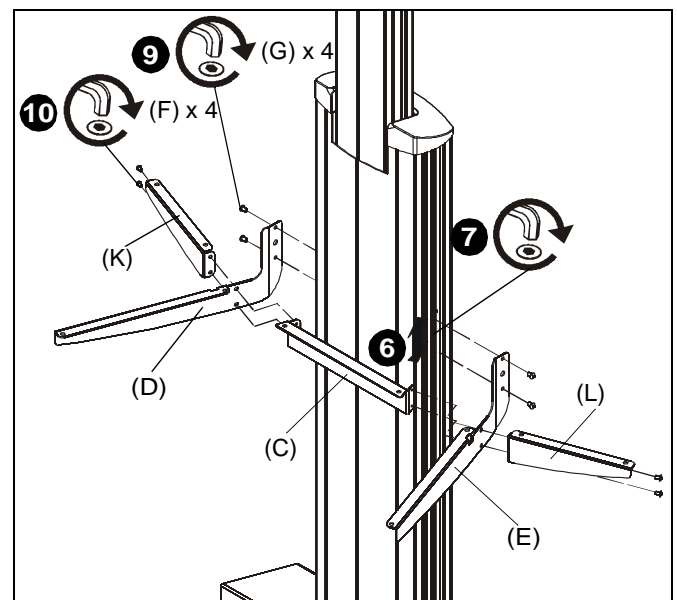

Figure 3
6. Slide accessory bracket (B) up or down in side channel until desired mounting height is reached. (See Figure 3)
7. Tighten set screw (H) to lock bracket in position. (See Figure 3)
9. Use four 1/4-20 x 3/8" button head cap screws (G) to secure right and left shelf supports (D and E) to accessory bracket (B). (See Figure 3)
10. Use four #10-24 x 3/8" button head cap screws (F) to secure right and left horizontal supports (K and L) to right and left shelf supports (D and E) and center support bracket (C). (See Figure 3)